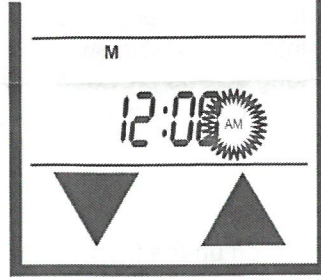

Fig. 7
- The AM PM will be flashing. Use the **UP** and **DOWN** touch buttons to select one of them, then press **SET**. (FIG. 7)